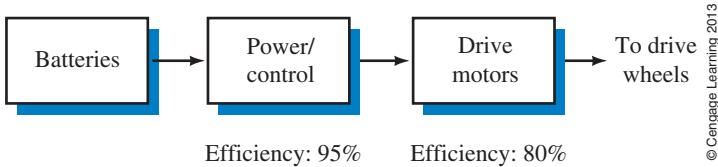

FIGURE 4-39
61. The power/control system of an electric car consists of a 48-V onboard battery pack, electronic control/drive unit, and motor (Figure 4-39). If 180 A are drawn from the batteries, how many horsepower are delivered to the drive wheels?